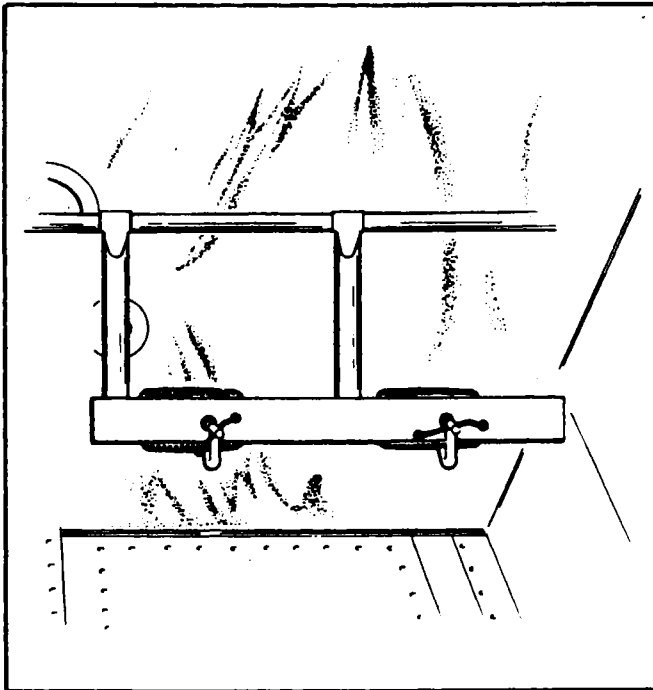

Figure 7-3. Clamping Rudder Pedals in Neutral Position
- e. Clamp rudder pedals to align in a lateral position. (Refer to Figure 7-3.)